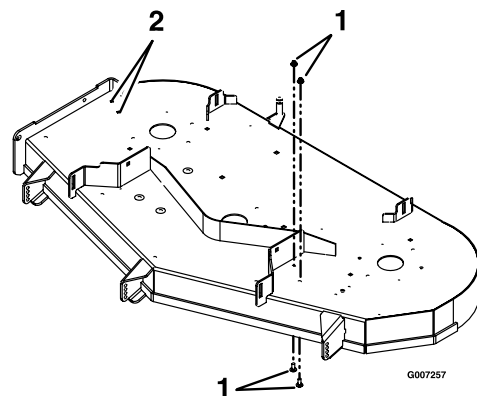

FIGURE 3
8. Remove the two 5/16 inch nuts and bolts from the left side of the deck and plug the mounting holes for the discharge baffle as shown in Figure 3.